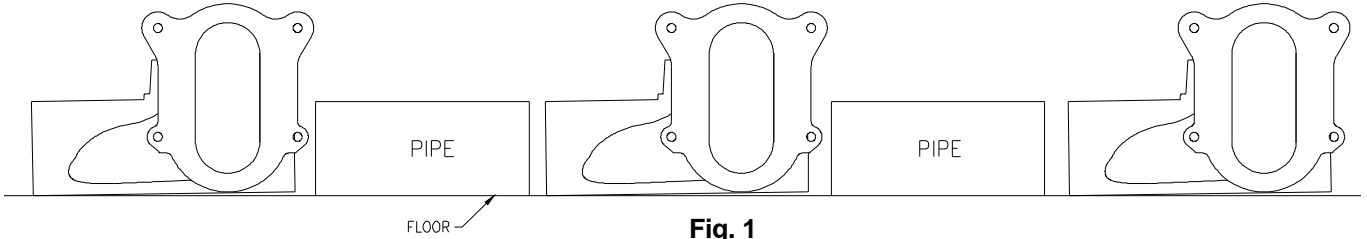

Fig. 1
1. Lay carrier fittings on floor. To obtain spacing between units, place proper length of pipe between adjoining fittings. See Fig. 1